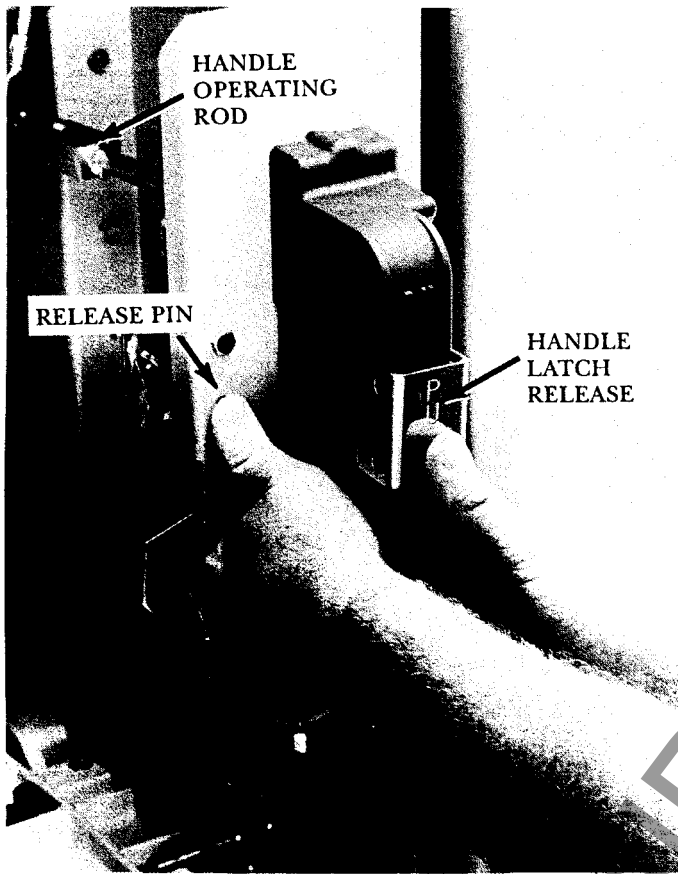

Figure 39. Isolation switch handle operation during equipment checkout
With the high-voltage door open, push in the door operated release pin as shown in Figure 39. This is not a normal operation and should only be used for equipment check out or servicing.
Push in the handle latch release shown in Figure 39 and begin to pull up on the handle. With the handle in the intermediate position, push down on the top moving armature of the contactor. The mechanical interlock mechanism should prevent the armature from fully closing on the contactor.
WARNING: Before making any adjustments, be sure that equipment is de-energized, the contactor is in the full "OPEN" position and the isolation switch handle is in an intermediate position with the handle latch release (Figure 39) fully depressed.
Push in the handle latch release (See Figure 39) and move the handle up to the full "ON" position (i.e. the handle latch release pops back out) by rotating the handle up with a rapid, positive motion.
Push in the handle latch release (See Figure 39) and move the handle down to the full "OFF" position (i.e. the handle latch release pops back out) by rotating the handle down with a rapid, positive motion.
- B. WITH THE DOOR OPEN, CLOSE THE ISOLATION SWITCH AS SHOWN IN FIG. 39